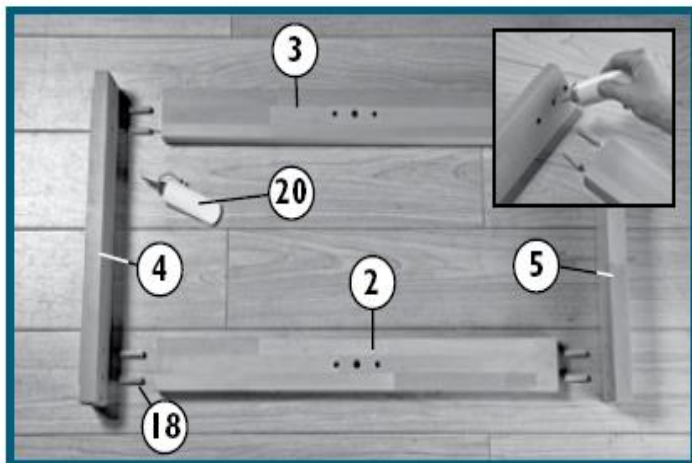

Fig. 1
1. Place Base (5), Top Rail Support (4), Back Leg (3) and Front Leg with Bench Dog Storage Holes (2) with dowel holes facing inward as shown (Fig. 1). Attach the Base and Top Rail Support to the Front Leg with Bench Dog Holes (2) and Back Leg (3) using four Dowels (18) and Glue (20) for each (see Fig. 1 inset photo). Use the inner holes. The outer hole on each side of the Top Rail Support (4) will later be used to attach the Bench Top (1). Repeat this process for the other leg assembly.